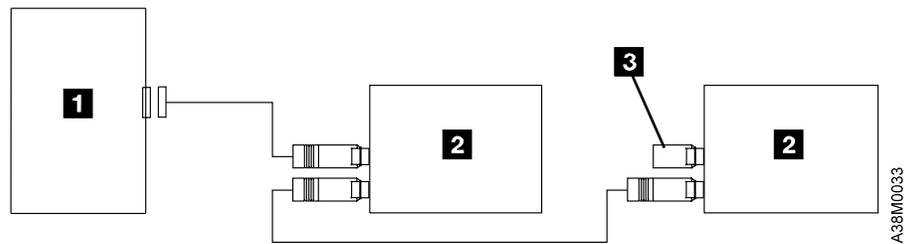

Figure 5. Example of Attaching Multiple SCSI Devices to the System Unit
- If the 7210 DVD-RAM Drive is part of a multiple-device configuration, connect the SCSI cable to the next device (see Figure 5 on page 9).
- If there is more than one device ( **2** in Figure 5) attached to the host system **1**, move the terminator **3** to the last device.